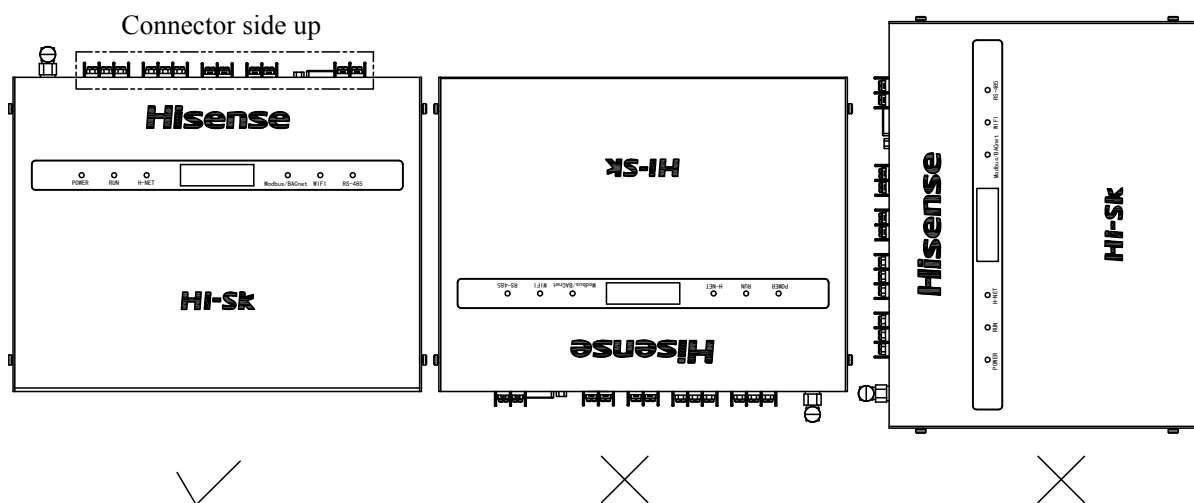

Figure 2.2 Installation direction
(1) For vertical (wall hang) installation, note the connector side is top side, as shown in Figure 2.2.